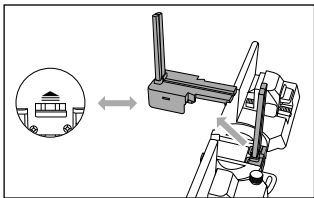

Fig. 7
- ◆ Hold the product with the top side up and press the locking lever **11** in the direction of the arrow  to remove cutting guide element B **10** (see fig. 7).
- ◆ Remove cutting guide element A **9** (see fig. 7).